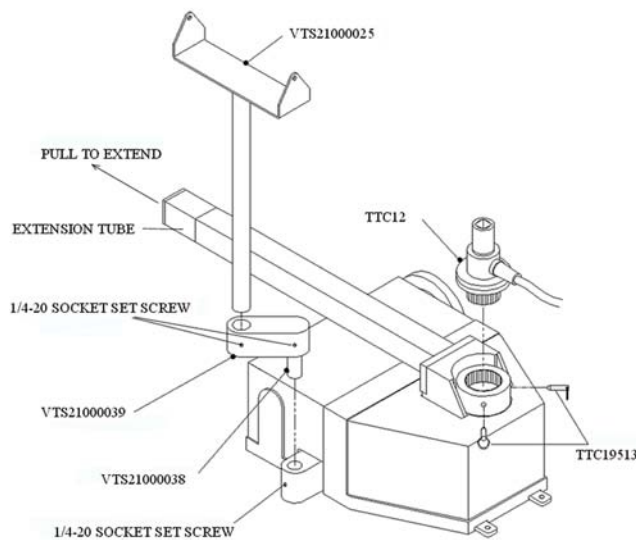

Fig. 3-2
2. Install Pivot tube (VTS21000038), Extension arm (VTS21000039) and Bracket (VTS21000025). Adjust to desired position then lock using three setscrews shown on Fig. 3-2.
10. Pull Extension tube (to test wrench with extension) as shown on Fig. 3-2 until lock pins snap.